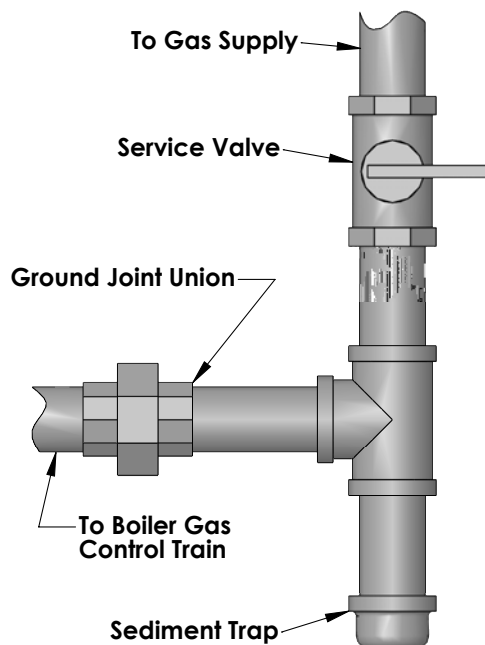

Figure 7.1: Gas Supply Connection to Boiler
4. Install a Service Valve, Sediment Trap and Ground Joint Union at the supply connection to the Gas Control Train as shown in Figure 7.1. These are not supplied with the boiler. Install them in accordance with local codes.